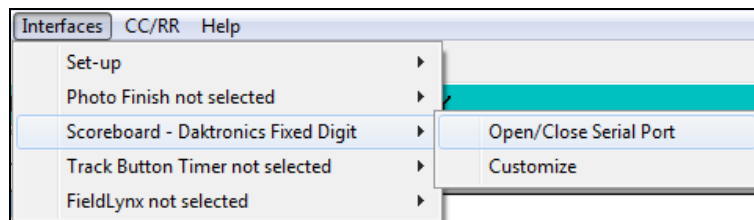

Figure 24: Open/Close Serial Port
5. Go to **Interfaces > Scoreboard - Daktronics Fixed Digit > Open/Close Serial Port** (Figure 24).